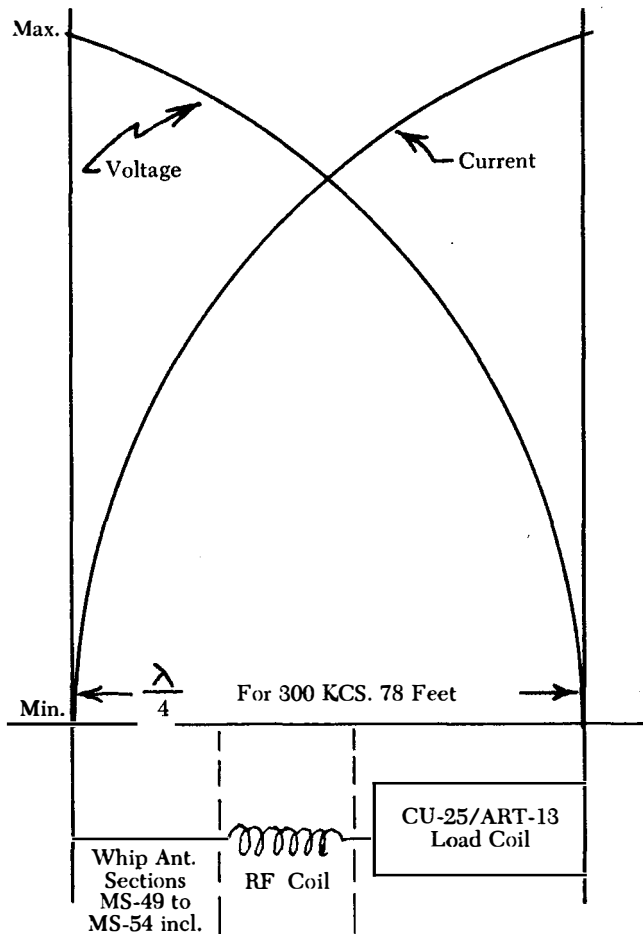

FIGURE 4-3. Voltage and Current Curve of AN/MRC-35A, 1/4 Wavelength (300KCS) Antenna System Used with T-47/ART-13.
It is highly important that the RF Coil be installed in the antenna system when tuning to the homing beacon frequencies. If the RF Coil is *not* installed when transmitting at the lower frequencies, serious arc-overs will occur due to the high RF potential generated in the short length of the antenna. The reason for the high voltage in the short whip portion of the antenna can be illustrated by the accompanying figure 4-3.
13, the RF Coil and the antenna sections MS-49 through 54, incl, the short portion of the antenna (19½') would be in the maximum voltage portion of the voltage curve as indicated in figure 4-3.
f. ANTENNA THEORY.—300 KCS is a typical low frequency. A quarter wave antenna at 300 KCS physically measures approximately 78 feet. The AN/MRC-35A whip antenna measures approximately 19½ feet or 25% of the entire antenna length. It was therefore necessary to effectively lengthen the antenna in order to resonate it. This was accomplished by the design of an RF Coil as described in paragraph 4-3(c) and the utilization of Antenna Loading Coil CU-25/ART-13. The addition of the RF Coil and CU-25/ART-13 effectively lengthens the 19½ foot whip antenna to 78 feet which is the physical length of antenna that will resonate at 300 KCS. It is easy to see by the curve of figure 4-3 that the potential on the whip antenna is in the area of highest voltage.